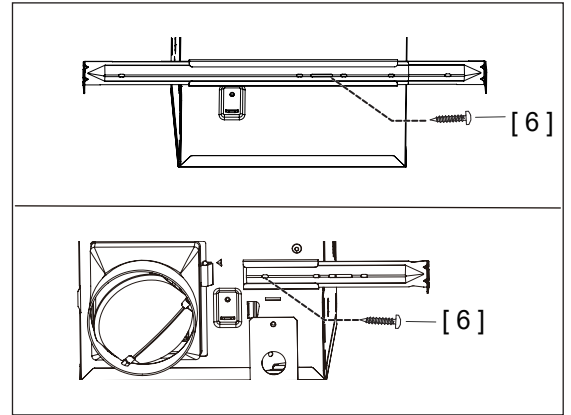

Fig 13
5. Find the hole in the center of overlapped pair of Brackets [ 3 ]. Install one Short Screw [ 6 ] in the hole, close to the middle of the Fan Body [ 1 ]. (Fig 13)
6. Install one Short Screw [ 6 ] to the hole of the third bracket and secure. The hole should be close to the center of the slot. (Fig 13)